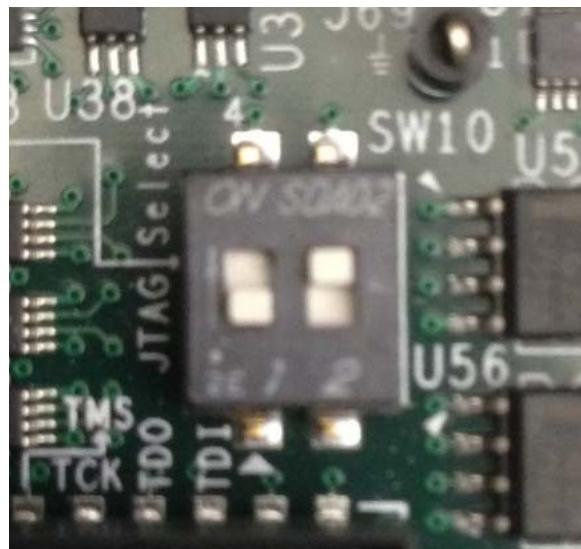

Figure 6-3: SW4 on a ZC706 Set to use Digilent USB JTAG
2. Connect a Digilent cable between the Windows host machine and the target board with the following SW10 switch settings, as shown in Figure 6-3.